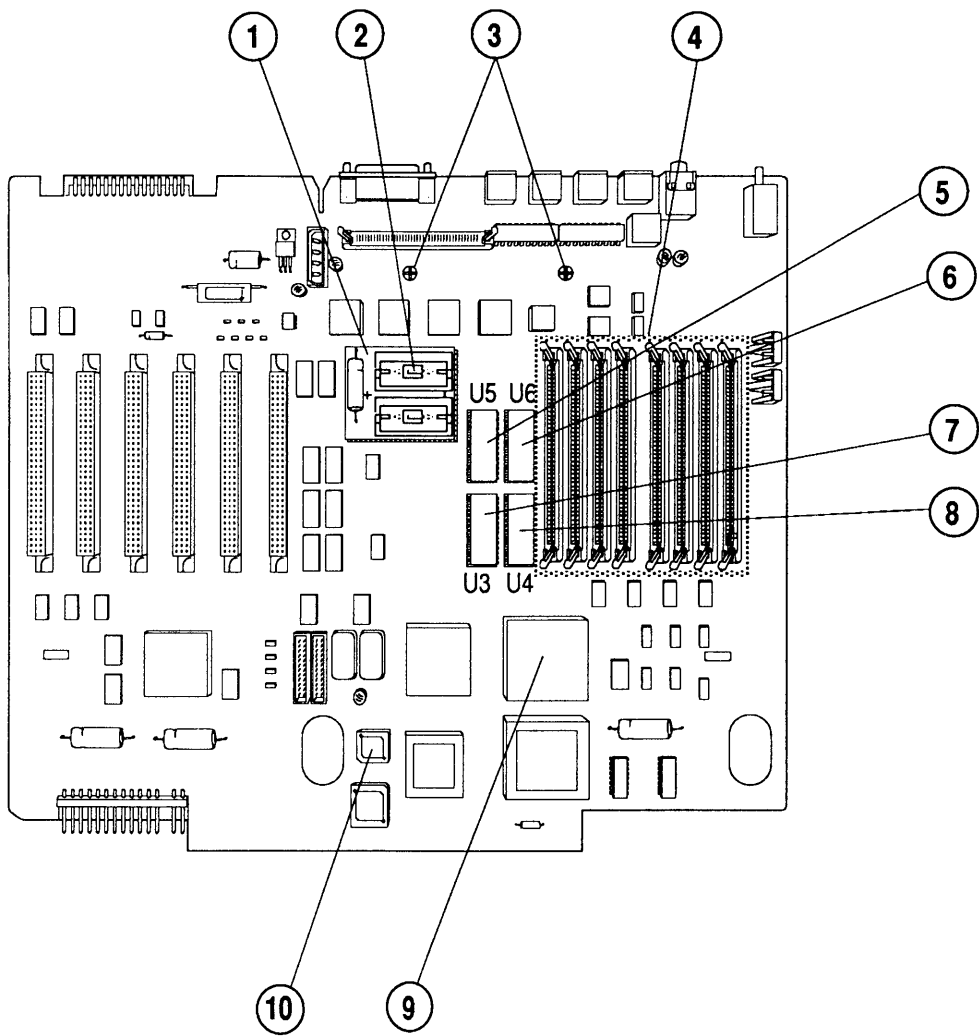

FIGURE 2
- IPL.5 Macintosh II – Logic Board (Figure 2)
□ MACINTOSH II – LOGIC BOARD (Figure 2)